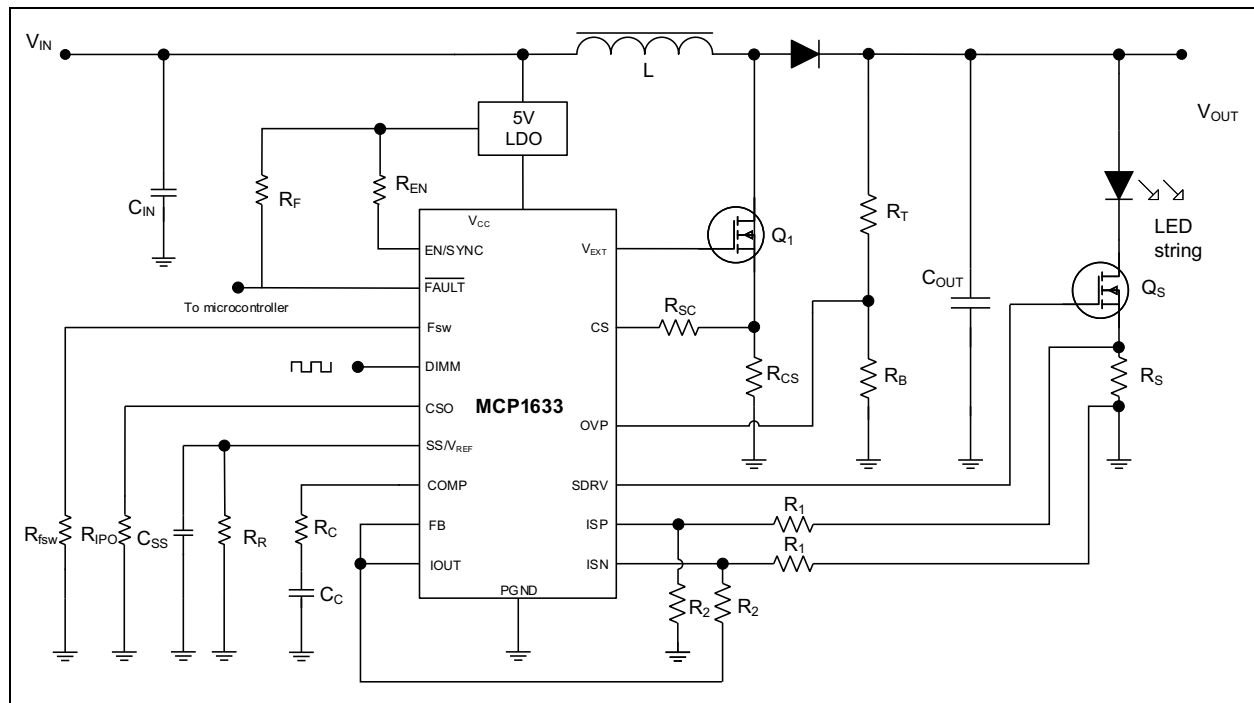

FIGURE 5-1: MCP1633 Typical Boost Converter.
Figure 5-1 depicts a typical boost converter controlled by the MCP1633. If the converter must operate with input voltages higher than 5.0V, a linear voltage regulator can be used to bias the MCP1633 controller. The Peak Current Mode control used in this case ensures consistent performance over a wide range of operating conditions. The MOSFET is protected against overcurrent by internally limiting the maximum voltage at the output of the error amplifier of the controller. If the voltage applied to the CS pin exceeds the set threshold, the MCP1633 device will reduce the duty cycle in order to prevent overcurrent in MOSFET.
- Updated Figure 5-1, Figure 5-2 and Figure 5-3 in Section 5.0, Application Circuits.